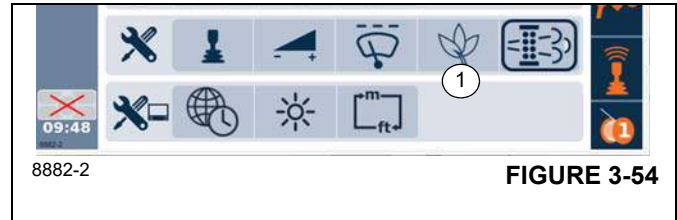

FIGURE 3-54
To open: Select symbol (1), (Figure 3-54) and confirm.